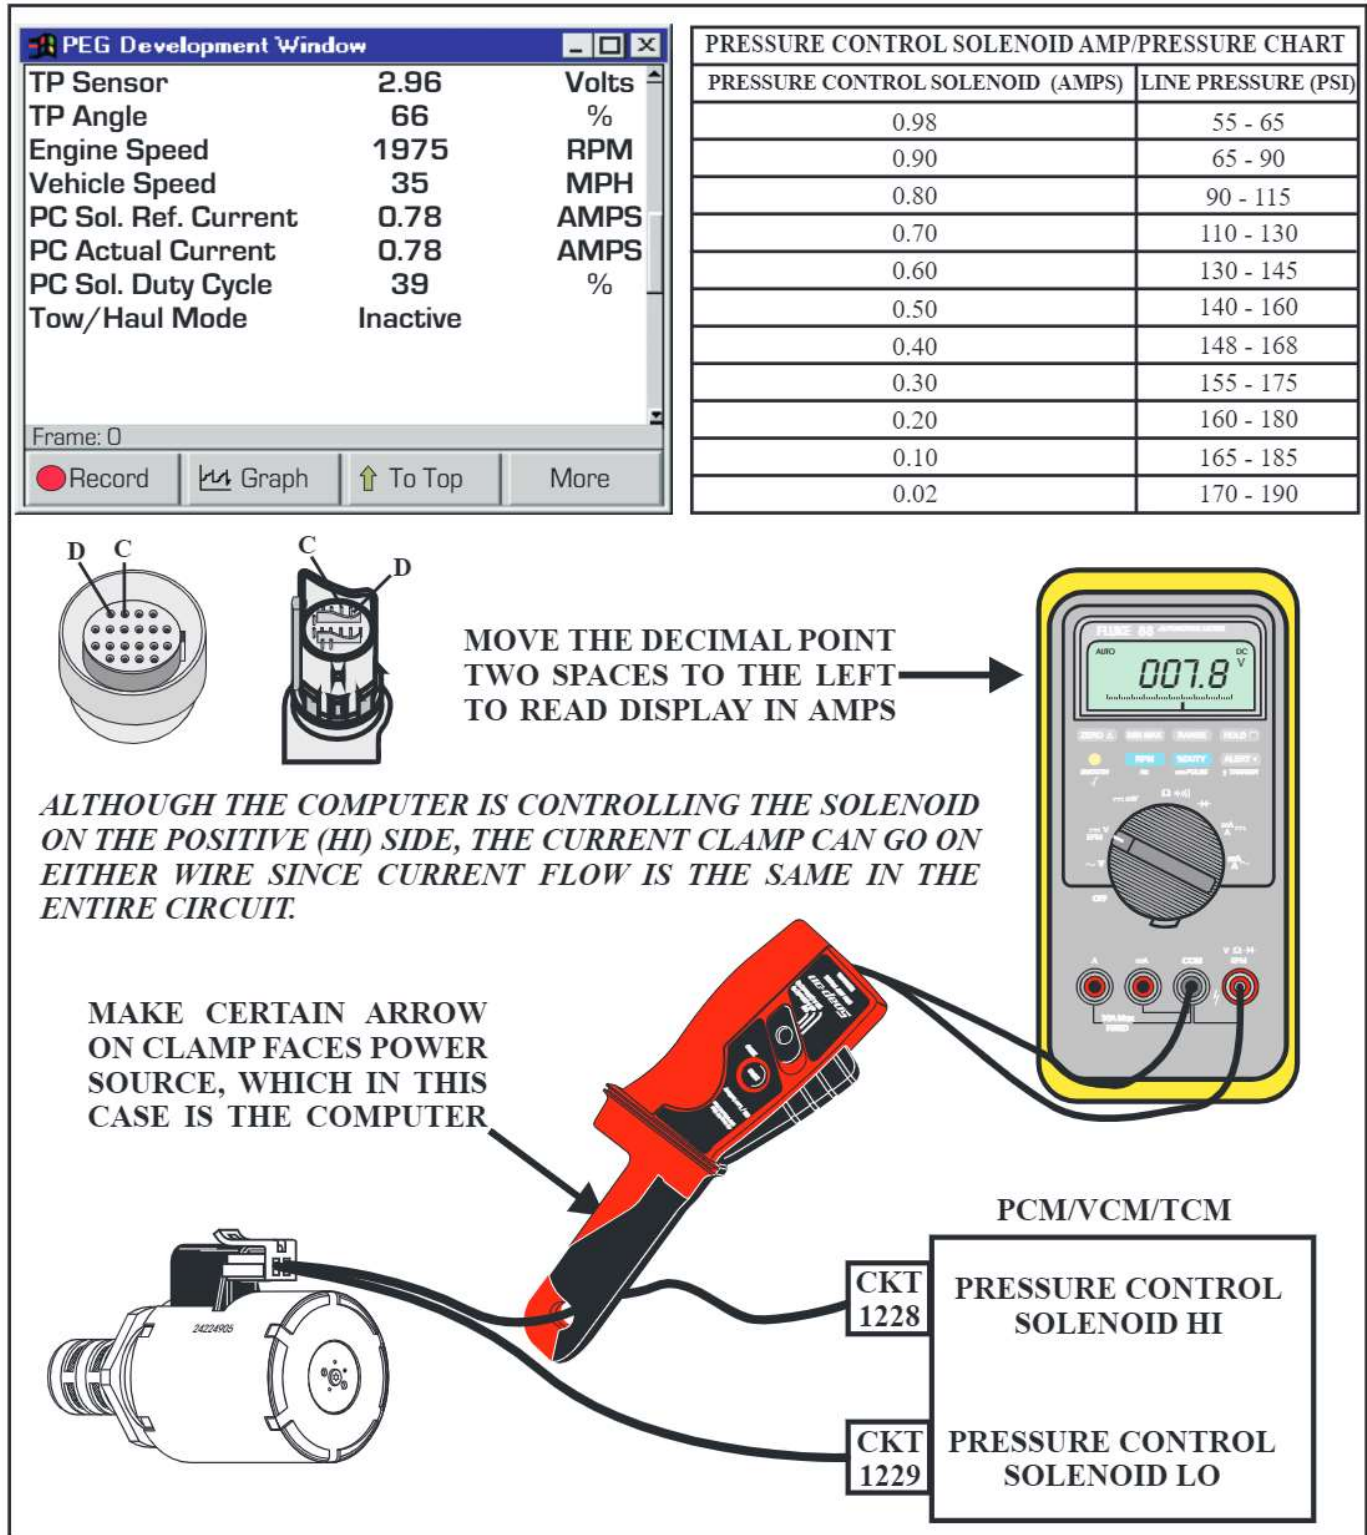

Figure 112
- A short or an open in the PCS High (1228 Red/Black) or Low (1229 Lt. Blue/White) circuits, (Refer to Figure 112).
- There are times when the data displayed on the scan tool is not what is actually taking place on the circuit. It is a good idea to compare what amperage you see on the scan tool to the amperage shown on a DVOM, preferably with the use of a Low Current Probe as shown in Figure 112. **Remember to move the decimal point two places to the left so the numbers represent amps instead of volts.**
- Current should be the same throughout the circuit so it really doesn't matter where you put the low current clamp, just remember to install the clamp with the arrow on it towards the power source, which in this case would be the computer as seen in Figure 112.
- The vehicle computer controls the PCS on the PCS HI or positive side, and monitors the feedback on the PCS LO or negative side of the circuit. Do not check the PCS circuits using volts, it is inaccurate. An easier method may be to use your DVOM set to Duty Cycle (%), See Figure 112.
- Keep in mind that a scan tool or DVOM not only displays what is wrong, it also displays what is right. If the PCS control is correct but a pressure gauge indicates pressure is incorrect, this would indicate a mechanical problem inside the transmission. Use the chart in Figure 112 to compare PCS amps to the pressure that should exist at that amp level.